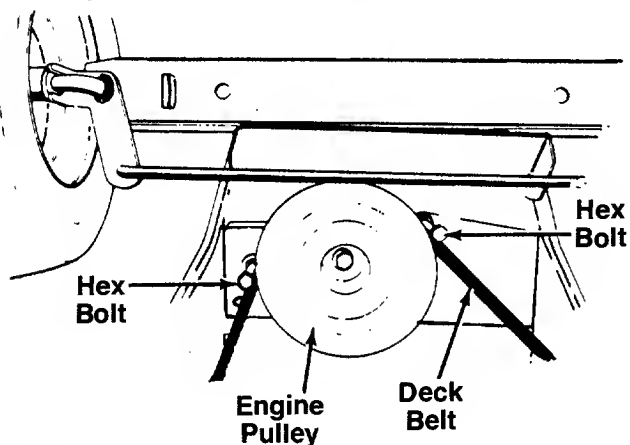

FIGURE 19.
**NOTE:** Figures 19, 22 and 23 are shown with the unit tipped up for clarity. It is not necessary to tip the unit to remove the belts.
2. Remove the two hex bolts (belt keepers) from the engine pulley belt guard. See figure 19.
**NOTE:** Make certain hex bolts are reassembled as shown in figure 19.